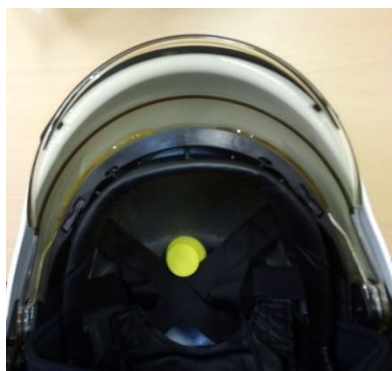

Fig. 9 Attaching the microphone.
As a rule, the helmet is equipped with special sockets placed in the mask holders, which enables the torches to be fixed on the left and right sides of the helmet with the help of a special connector (item 1 Fig. 9). Before taking the connector (item 1 Fig. 9) out of the holder on the shell (item 3 Fig. 9) you must slightly deflect it from the shell and pull it out. It is not recommended to put the connector by itself into the holder on the shell.
The helmet can be also equipped with special holders which enable the torches to be fixed close to the bottom edge of the shell with the help of a special connector (item 4 Fig. 9).